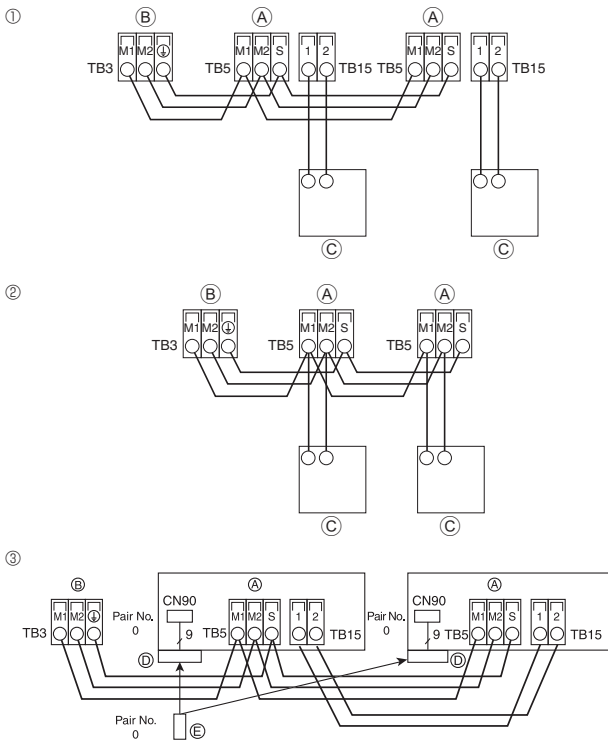

Fig. 6-3
6.4. Connecting remote controller, indoor and outdoor transmission cables (Fig. 6-3)
① MA Remote controller
② M-NET Remote controller
③ Wireless remote controller(When installing wireless signal receiver)